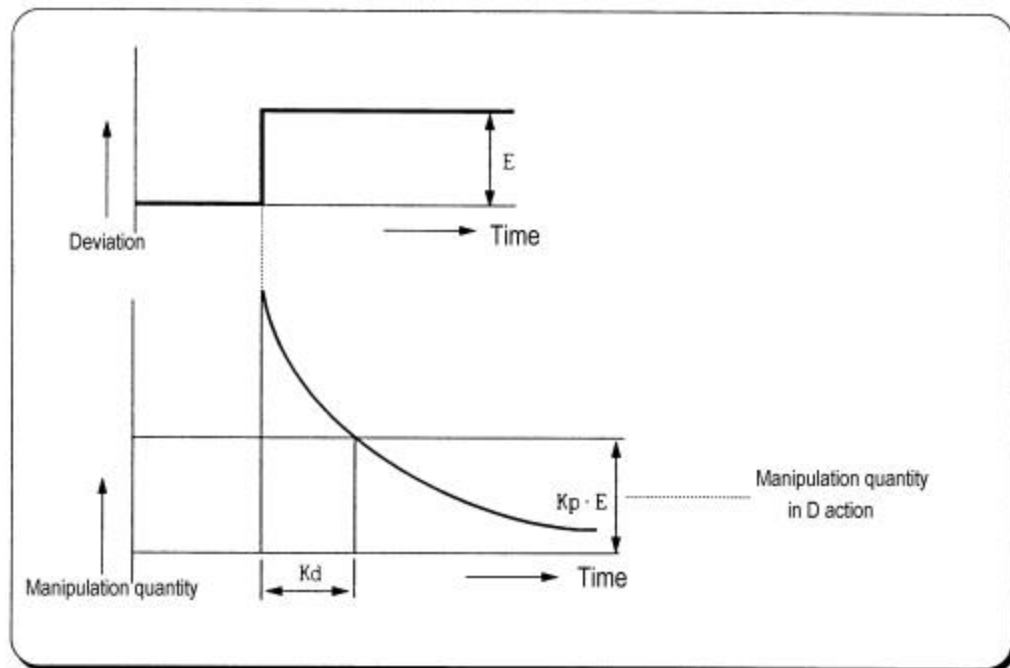

Fig. 2-7 Derivative action with a constant deviation
- (1) When a deviation occurs due to alteration of SV or external disturbances, D action restrains the changes of the deviation by producing MV which is proportioned with the change velocity (a velocity whose deviation changes at every constant interval) in order to eliminate the deviation.
- (2) The period of time from when the deviation has occurred to when the MV of D action become the MV of P action is called derivative time and represented as K_d .
- (3) The D action when a constant deviation occurred is shown as Fig. 2.7.